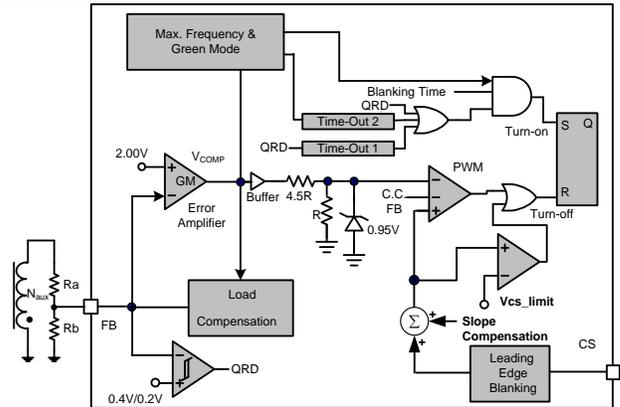

Fig. 17
The LD5523D2 employs quasi-resonant (QR) switching scheme to switch in valley-mode either in CV or CC operation. This will greatly reduce the switching loss and the ratio dv/dt in the entire operating range for the power supply. Fig. 17 shows the typical QR detection block. The QR detection will detect auxiliary winding signal to drive MOS as FB pin voltage drops to 0.2V. The QR comparator will not activate if FB pin voltage remains above 0.4V.